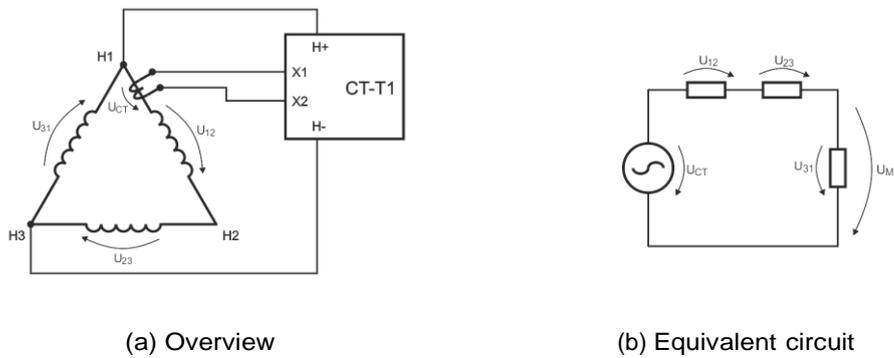

Figure 3.3: CT under test built into Δ power transformer (TR factor $1/3$)
- A turns ratio correction factor of $1/3$ needs to be applied if the $H1-H2$ cables of the CT-T1 are connected to an independent coil (Figure 3.3).